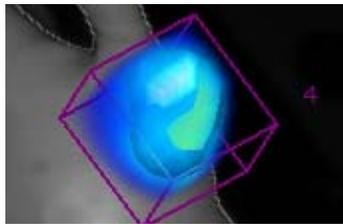

Figure 7-12. Isosurface ROI
3. Click on the desired isosurface. A rectangular prism encloses the area of the isosurface as shown in Figure 7-12 and the ROI table displays the ROI statistics.